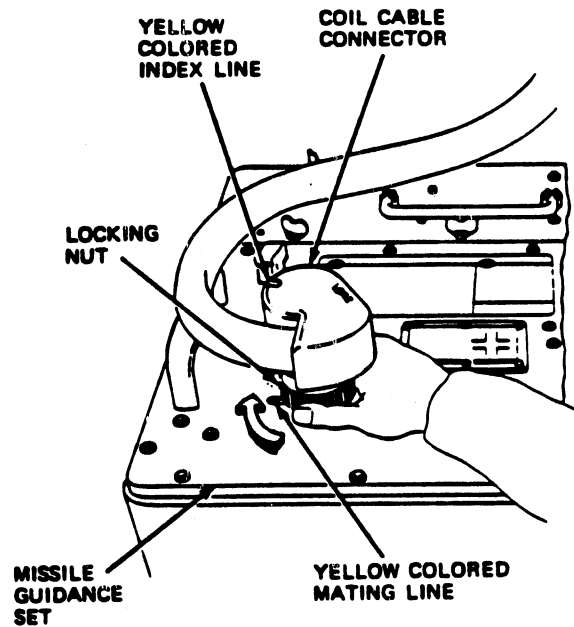

Fig 2-20. Installing the missile guidance set (MGS).
Step 3. Line up the yellow colored index line on the coil cable connector with the yellow colored mating line next to connector J1 on the MGS (fig 2-20).
Step 4. Push straight down on the coil cable connector and turn the locking nut clockwise until the red mark on the J1 connector cannot be seen (fig 2-20).